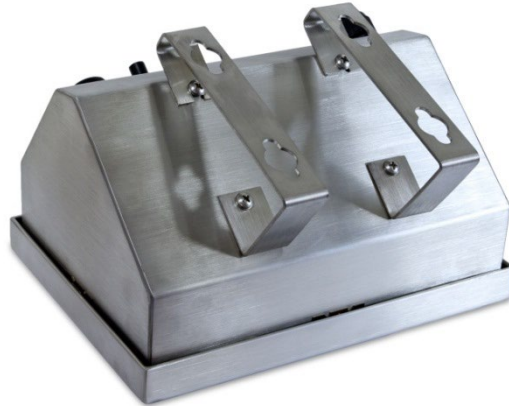

Figure A-13: Attaching the Wall-Mounting Bracket
1. Once the enclosure is closed, use the four screws to attach the brackets to the bottom of the terminal, as shown in Figure A-13.